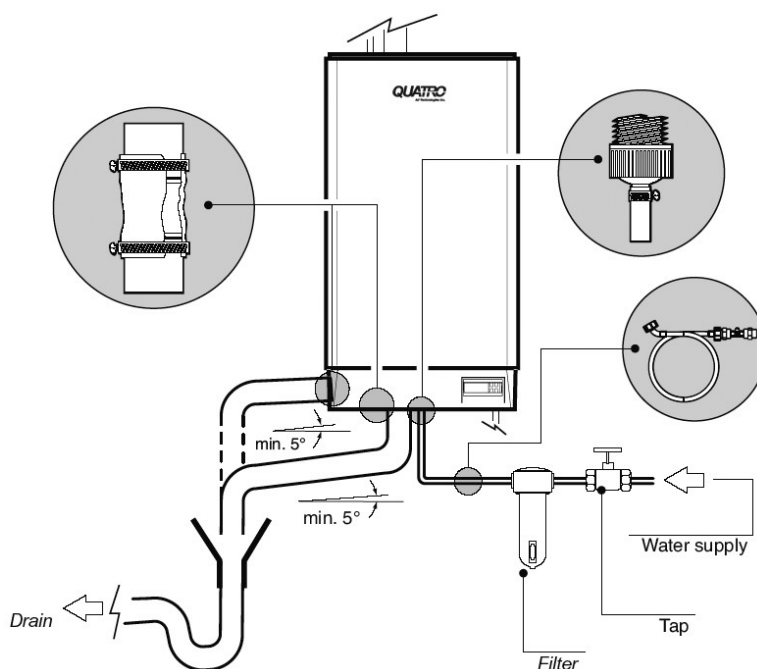

Figure 7:Connector terminals ON HU315
3 control wires (not supplied) need to be wired from the wall mounted sensor to the green connector terminals 4I, 5I, and 6I (See figure 7) as follows:
* Ensure that there is a jumper installed across 7I and 8I as in figure 7